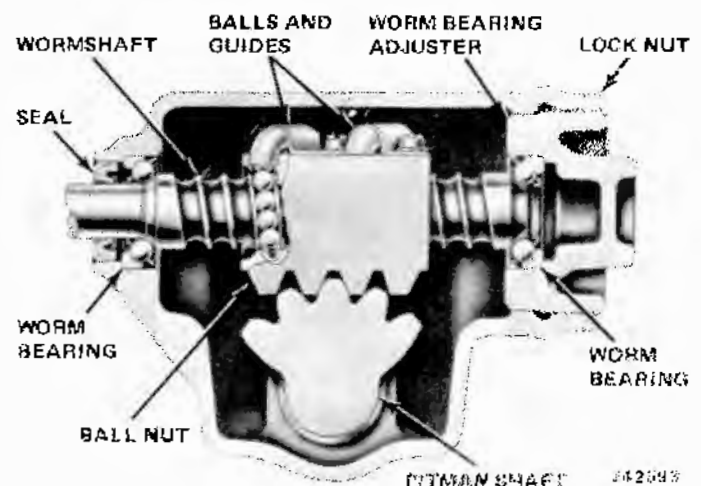
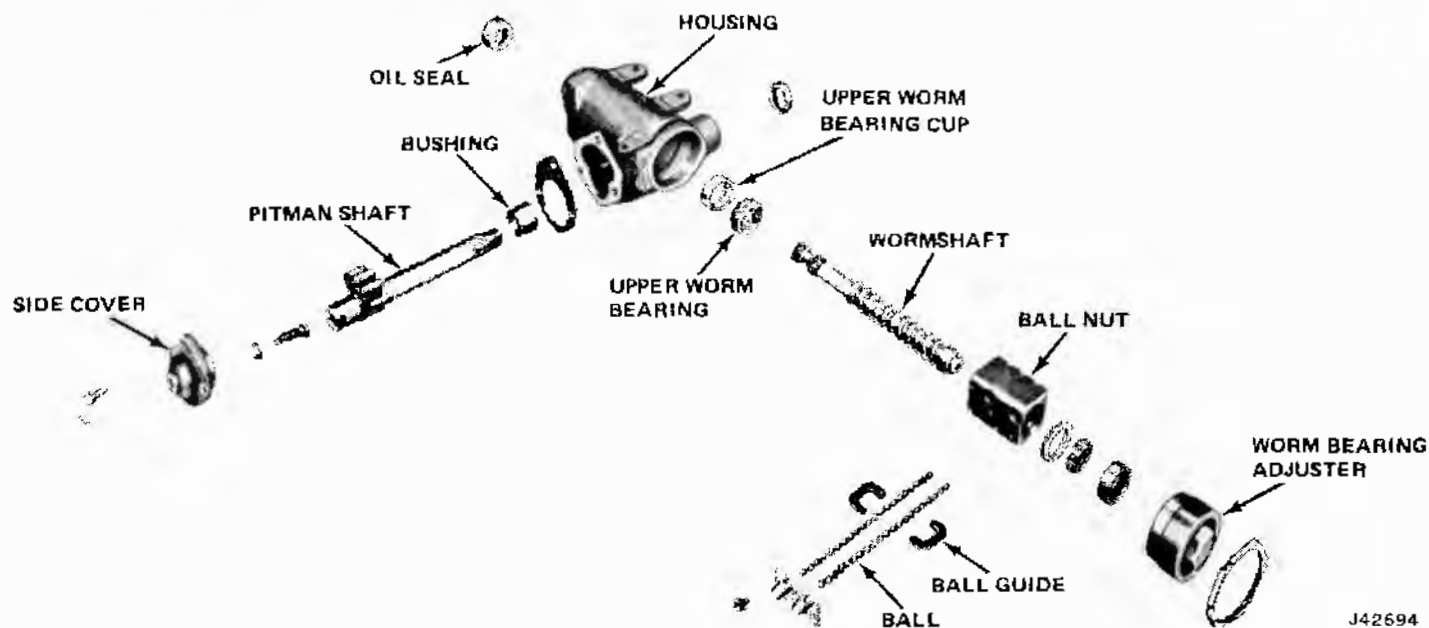

Fig. 11-33 Cross-Section of Steering Gear
Fig. 11-34 Left-Hand Drive Manual Steering Gear
(1) Rotate wormshaft until it is in center of travel. Mark along shaft, just beneath double spline, shall be centered between top and bottom of shaft when looking at shaft from side cover side (fig. 11-33).
(2) Remove adjuster locknut.
(3) Remove side cover bolts and lockwashers and turn lash adjuster screw clockwise to force side cover from housing. Remove side cover and gasket (fig. 11-34).
(4) Remove adjuster screw and shim from T-slot in